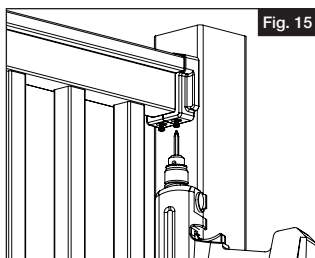

Fig. 15
- While tightly squeezing the bracket cover closed, pre-drill using a  $\frac{1}{8}$ " drill bit through the two holes underneath. Then, drive two #10 x 1" square drive screws through the cover, metal bracket and into the top rail (Fig 15).